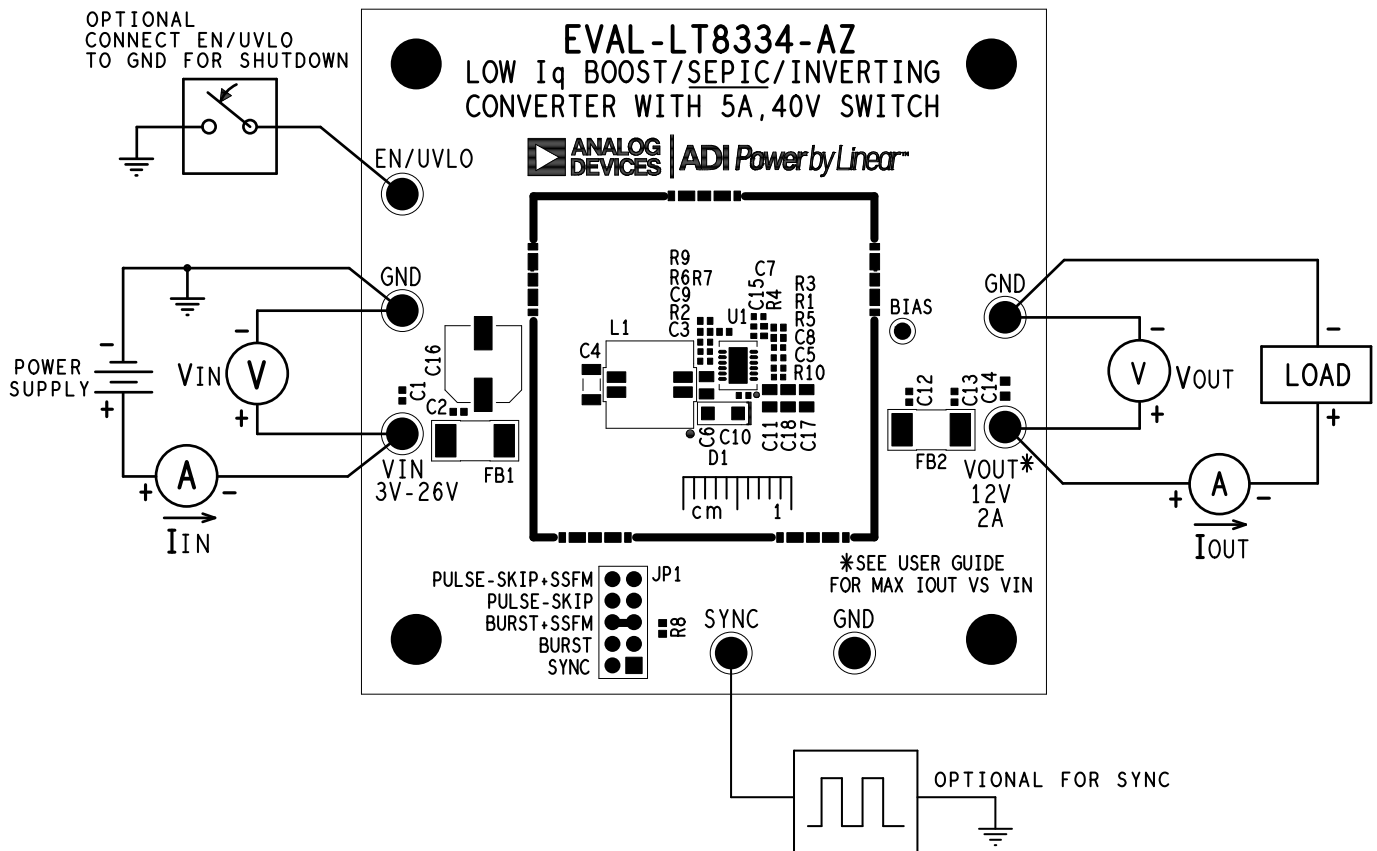

Figure 1. Proper Equipment Setup for EVAL-LT8334-AZ
Evaluation circuit EVAL-LT8334-AZ is easy to set up to evaluate the performance of the LT8334. Refer to Figure 1 for proper measurement equipment setup and follow the procedure below.
2. With power off, connect the input power supply to  $V_{IN}$  and GND terminals of the board. Include voltage and current meters as shown in Figure 1 if desired.